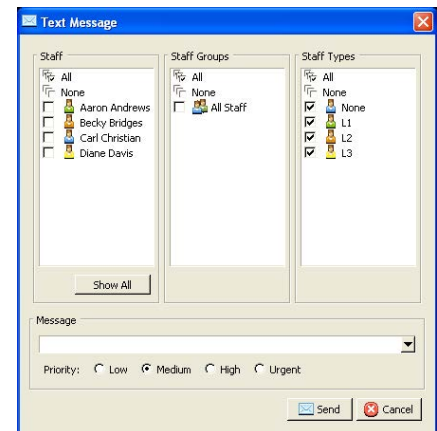

Figure 13: Text Message Window
- For NC402TS Master Stations and the LS576 Event Monitor, select the Text Message  button. The Text Message window will appear as shown in Figure 13.